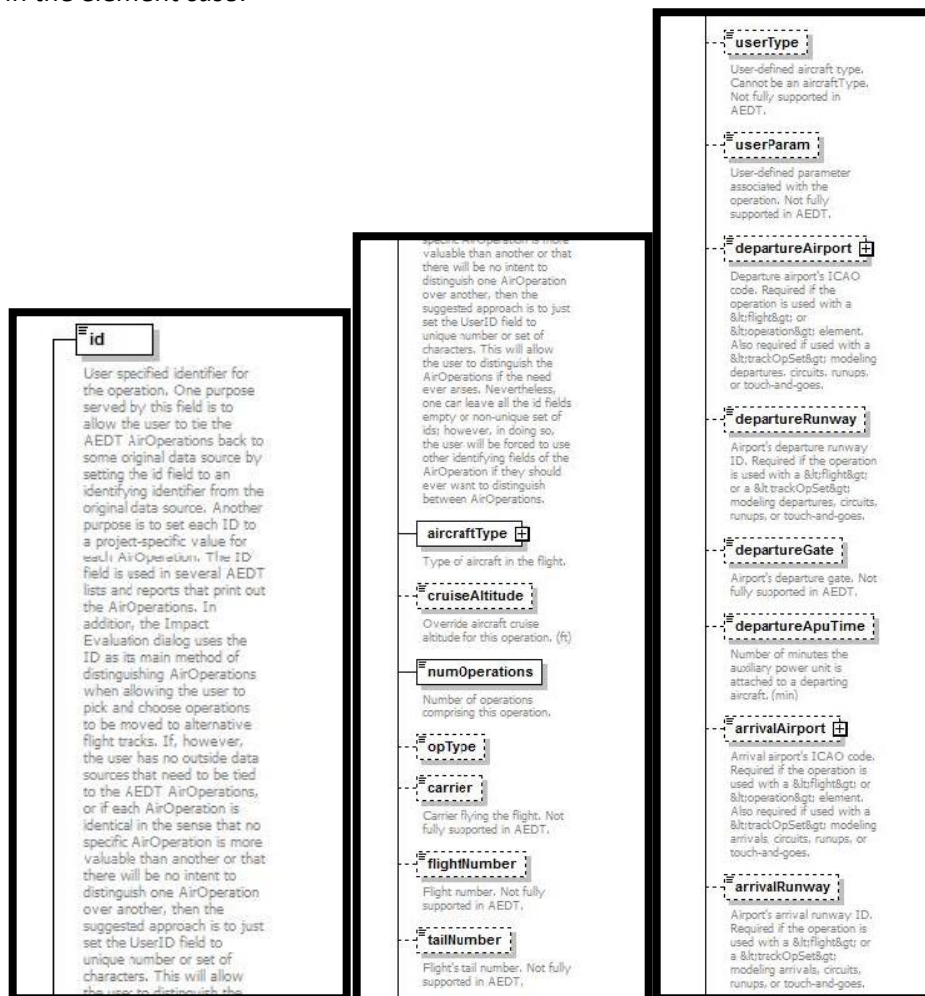

Figure 65 - element operation - 1 -> 2 -> 3
16. AsifXml/study/scenario/case /operation (Figures 65 and 66):